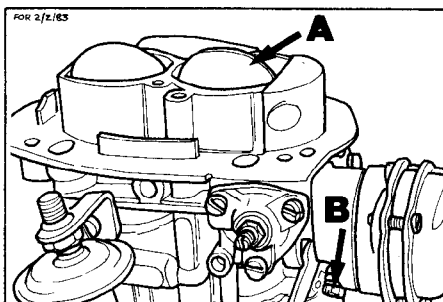

Fig. 2 Fast idle adjustment
- plates, then release throttle. The fast idle stop screw (B) should be resting on highest step of fast idle cam. Fully open choke plates (A, Fig. 2).
- If necessary, correct speed with fast idle speed screw (B, Fig. 2).